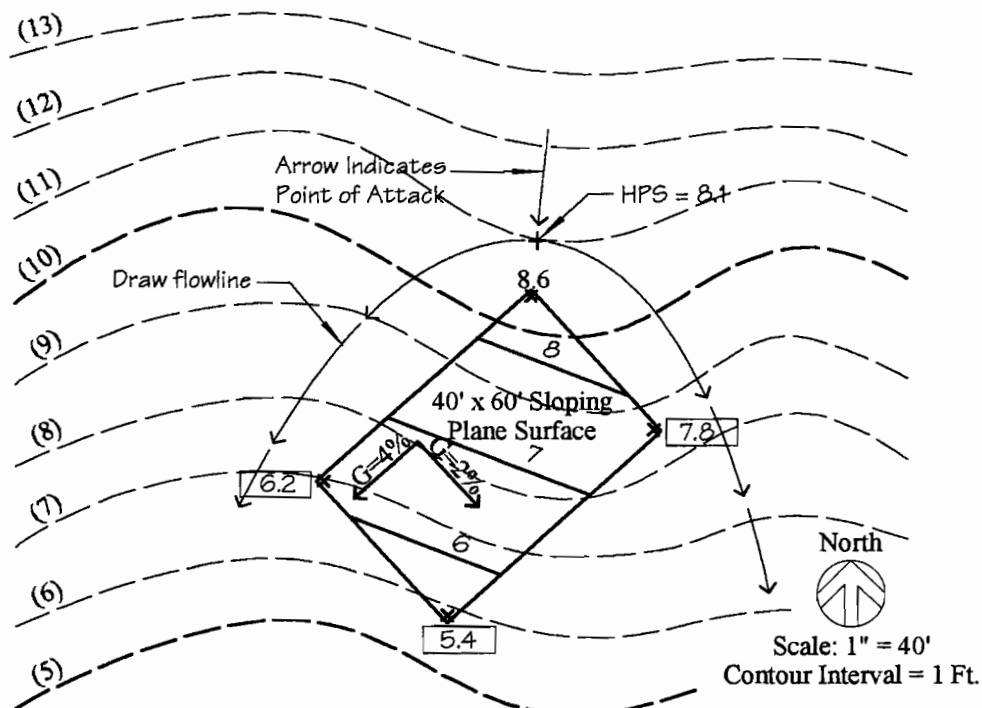

Figure 4-22. Identifying Point of Attack, Drawing Flowline, and Setting High Point Swale
Step 5. Establish the "Point of attack," high point swale elevation, and flowline as shown in Figure 4-22.
Figure 4-22 shows the point of attack, a workable flowline, and a high point swale elevation of 8.1.